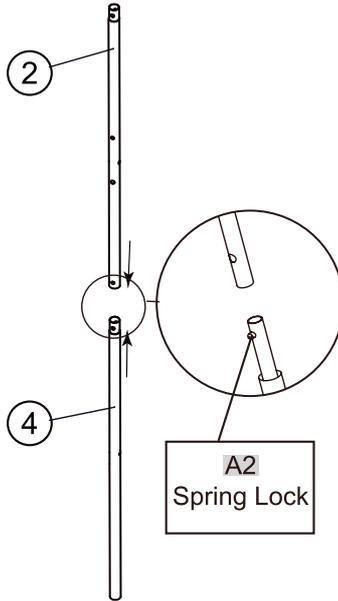

FIG. 2
4. Attach Tubes 7 (#7) to Tubes 8 (#8) using spring lock (pre-installed) as shown in FIG.2
②		X 2
③		X 1
④		X 1
⑦		X 2
⑧		X 2